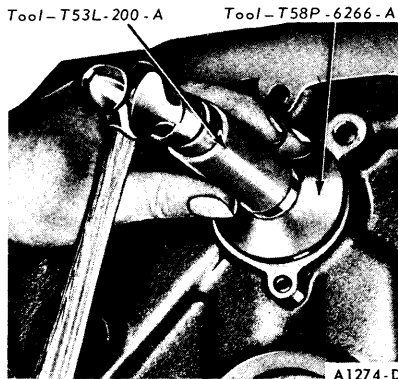

FIG. 60—Camshaft Rear Bearing Bore Plug Installation
4. Clean out the camshaft rear bearing bore plug recess thoroughly. Coat the flange of a new plug with oil-resistant sealer and install the plug (Fig. 60) with the flange edge of the plug facing inward.
6. Coat the flange of a new plug with oil-resistant sealer and install it with the flange facing inward (Fig. 60). Drive the plug in until it is flush or slightly below the casting surface.